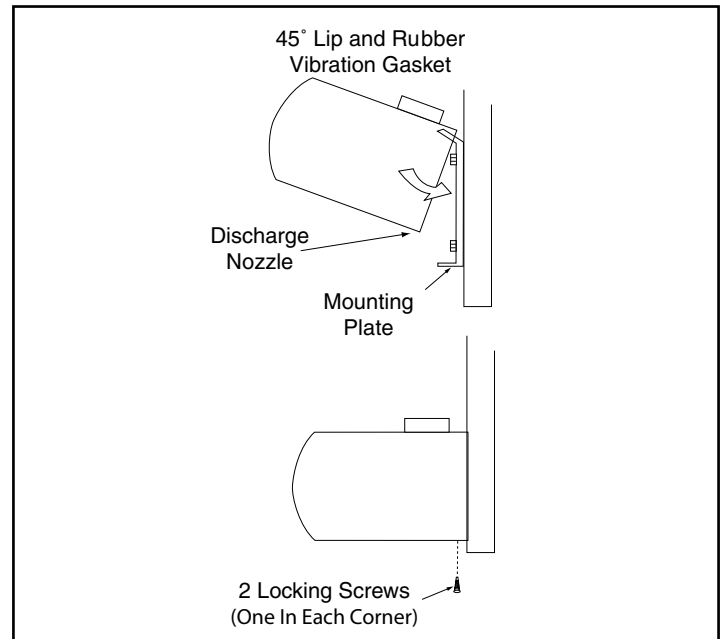

Figure 5
1. Raise the unit over the door (air discharge nozzle facing down) and on to the mounting plate. First, tilt the unit upward matching the top recessed edge of the unit to the top 45° angled lip on the mounting plate. **See Figure 5.**
3. After the unit is securely attached to the mounting plate, re-install the two (2) locking screws at the bottom corners. **See Figure 5.**
- A. When the air curtain is top mounted, the wall mounting plate is designed to store on the back of the air curtain for future use. **See Figure 5.**